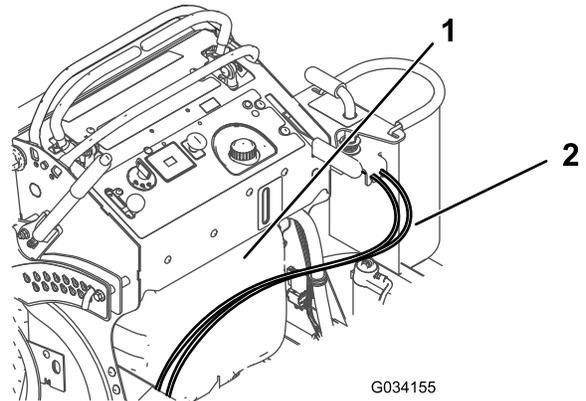

Figure 5
1. Route the cables across the machine, in front of the fuel tank (Figure 5).